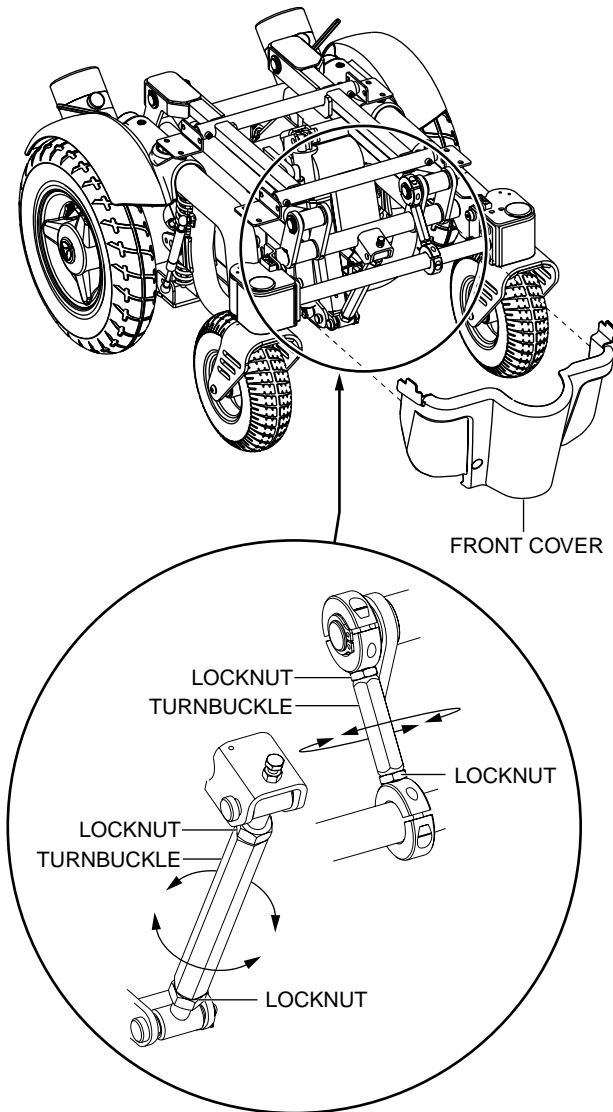

Figure 7. Seat Dump Adjustment
1. Turn the fasteners on the front cover one quarter ($1/4$) turn in any direction. See figure 7.